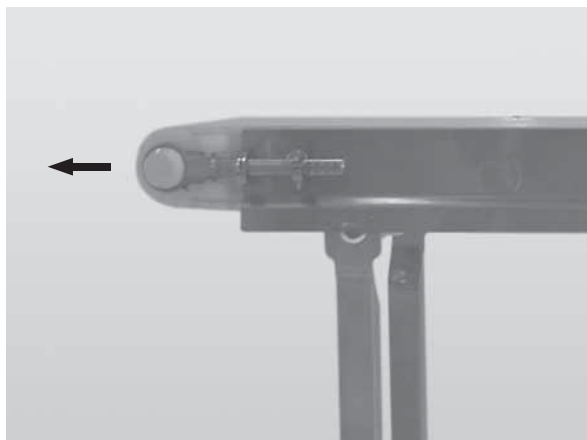

Figure 68
3. Continue extending the tension end until the belt is sufficiently tight (**Figure 68**).